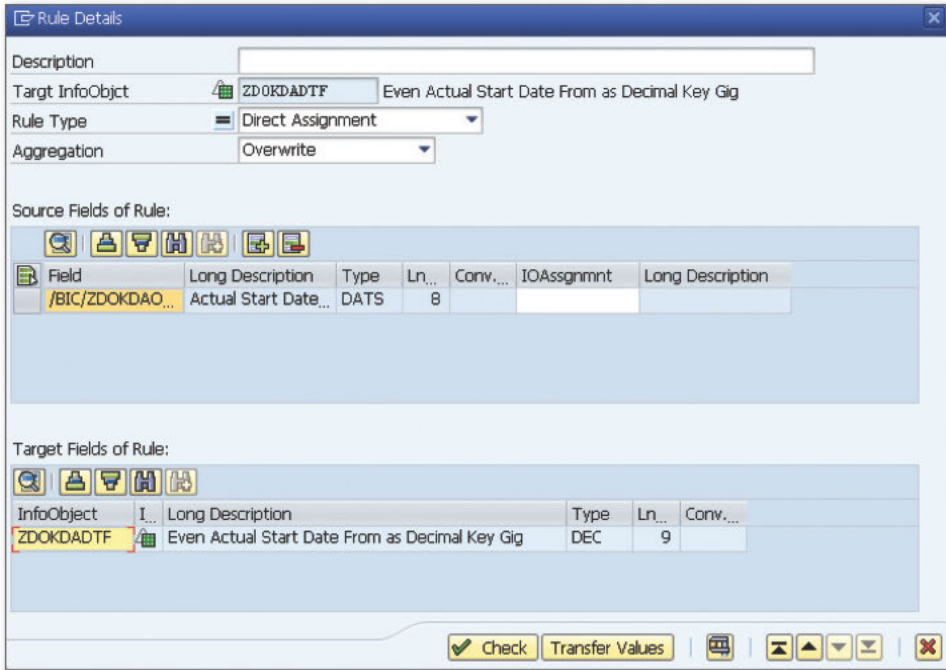

Figure 3 Mapping of Date/Time InfoObject to Key Figures
- ▶ EVENT ACTUAL END TIME TO AS DECIMAL KEY FIG to ACTUAL END TIME TO (see Figure 3)